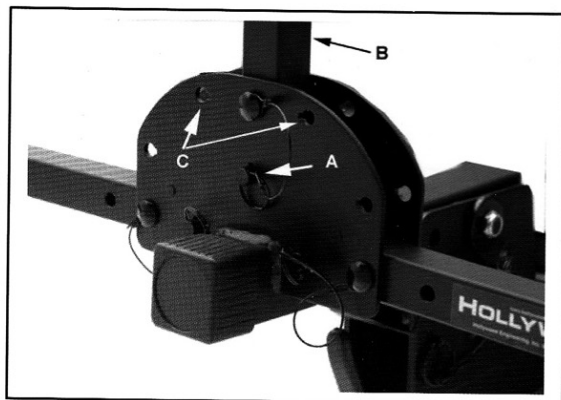

Fig. 5a
To fold up the main beam, you must first fold down the vertical post (B). Refer to Fig. 5a: Rotate and remove pin A, then rotate the post (B) and replace the pin in either holes C.